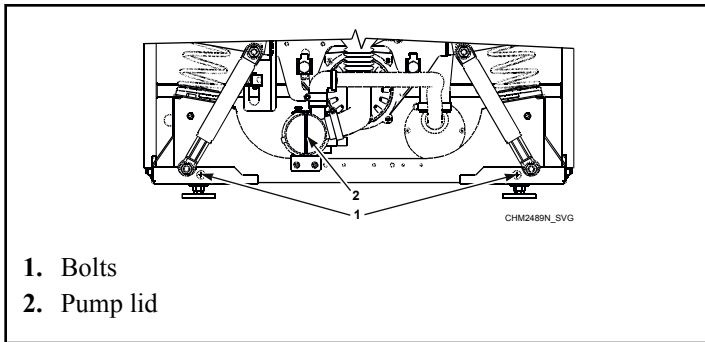

Figure 53
- c. Remove the front panel of cabinet by unlocking bolts. Refer to *Figure 53*.